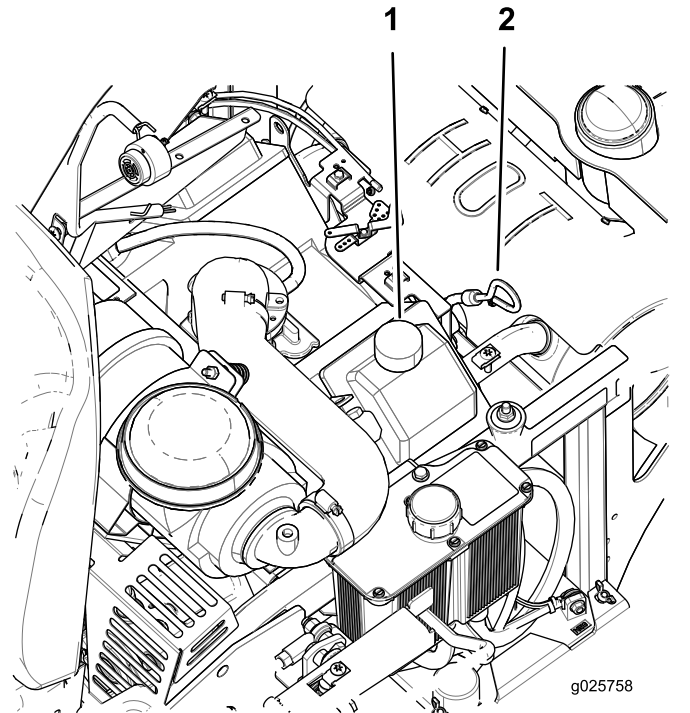

Figure 40
8. If the oil level is low, wipe off the area around the oil-fill cap, remove cap and fill to the **full** mark on the dipstick (Figure 40).
4. To keep dirt, grass clippings, etc., out of the engine, clean the area around the oil-fill cap and dipstick before removing it (Figure 40).
5. Slowly pour approximately 80% of the specified oil into the filler tube and slowly add the additional oil to bring it to the **full** mark on the dipstick (Figure 40).
6. Start the engine and drive to a flat area. Check the oil level again (Figure 40).